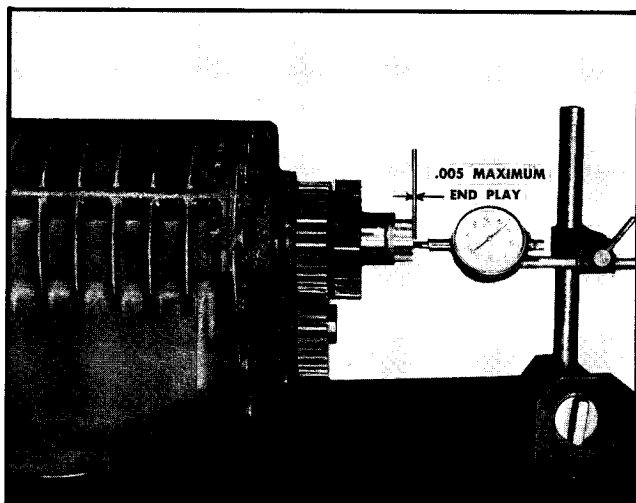

Fig. 10-3. Checking end play
3. Check the end play of the rotor shaft. See Fig. 10-3.